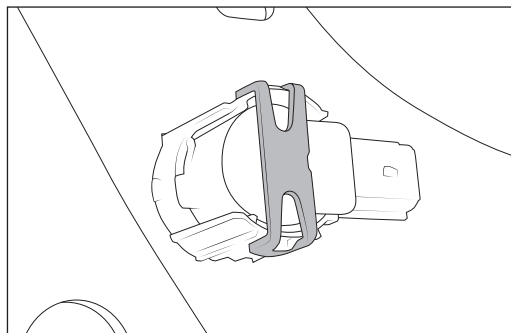

Figure 32
3. Install locking clip onto back of bezel (fig. 32).